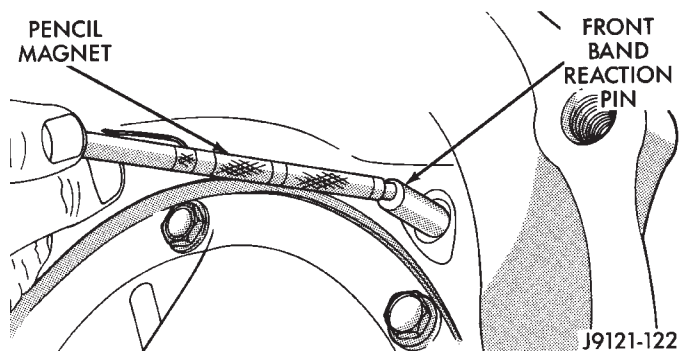

Fig. 12 Removing Front Band Reaction Pin
(20) Remove front band reaction pin with pencil magnet. Pin is accessible from converter housing side of case (Fig. 12).